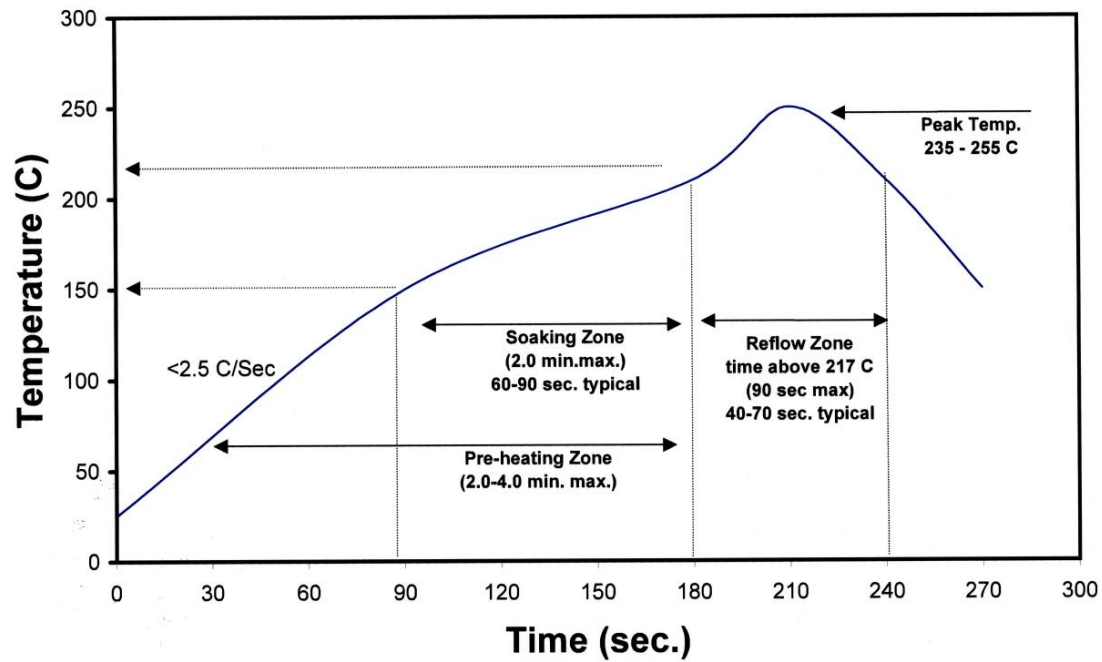

Figure 3: Reflow soldering profile for lead free soldering.
- Solder conditions per JEDEC 020c. See Reflow Soldering Profile Figure 3.